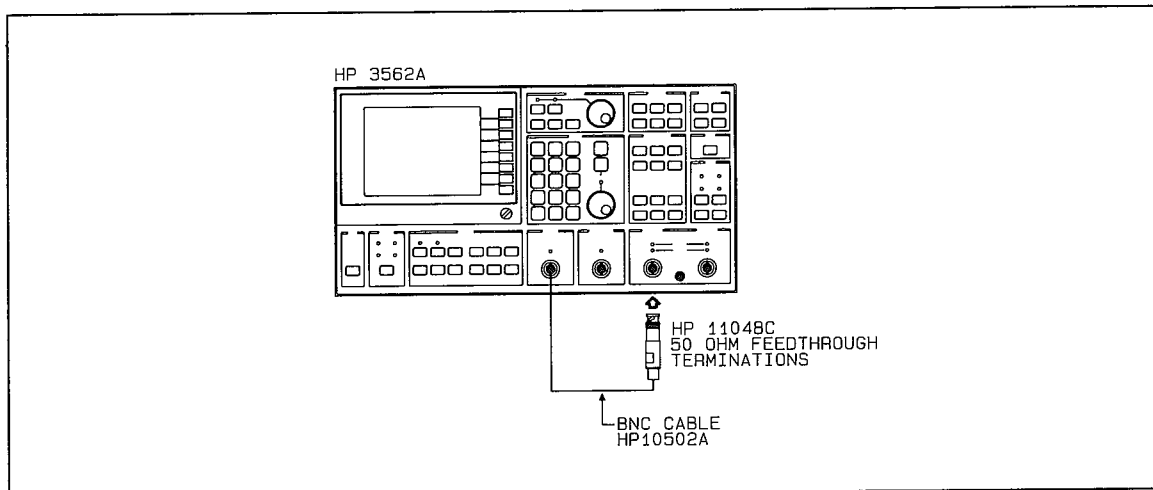

Figure 2-32 Source Output Resistance Test Setup
A. Connect the test instruments as shown in figure 2-32.